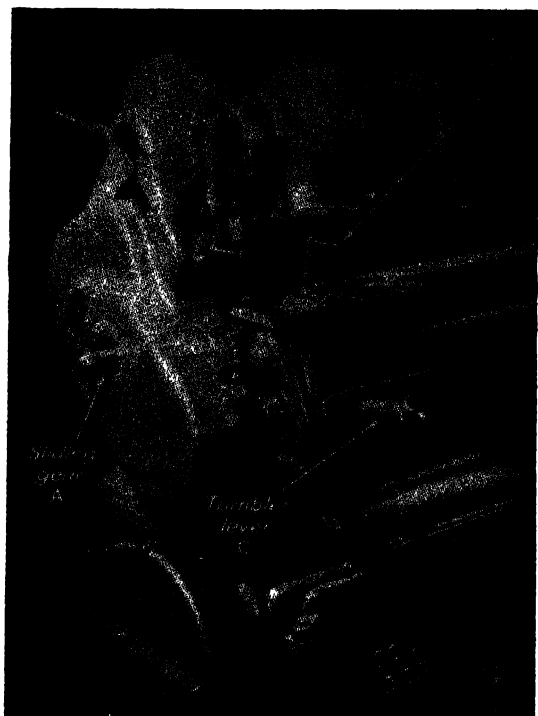

**Fig. 10-16.** Micrometer collar. *A*, setscrews. (*South Bend Lathe Works*)
**Micrometer Collars (Fig. 10-16).** Each graduation of the micrometer collars on the cross-feed knob and the compound-rest knob represent a movement of one-thousandth of an inch. The graduated collars may be set at zero by releasing the setscrews *A* which lock them in position.